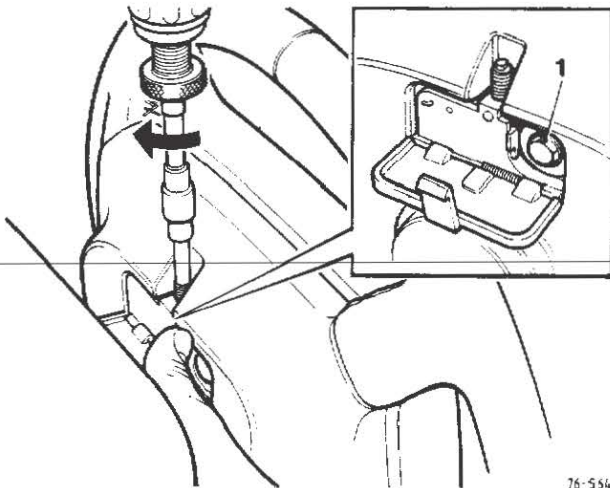

FIG 5
- 1 Slide the access plate across and hold in position. Turn the arming screw clockwise approximately 2 turns to lock the plate, thus giving access to the module securing bolt (1 Fig 5).